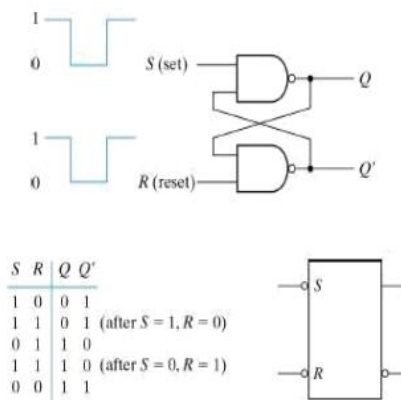

Figure3: SR latch with NAND gate 3
The SR latch is a circuit that is constructed using 2 cross-coupled NAND or NOR gates. It has two input the rest(R) and set(S) and two outputs (Q) and (Q') as shown in Figure 3.